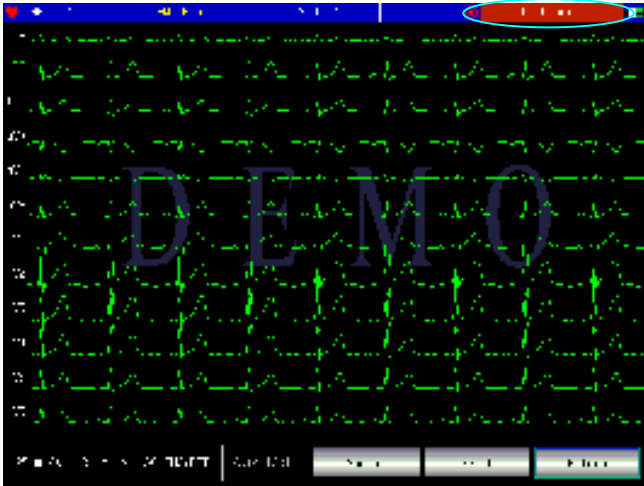

Figure 6-2 Lack of paper prompt
6.1.3 If the recording paper runs out during recording, the device will stop printing automatically, and the screen will display a prompt of lack of paper, as shown in Figure 6-2.